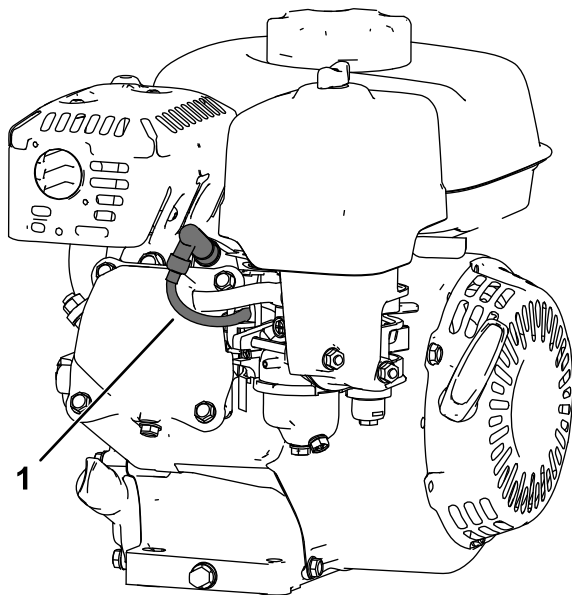

Figure 23
5. Disconnect the spark-plug wire (Figure 23).